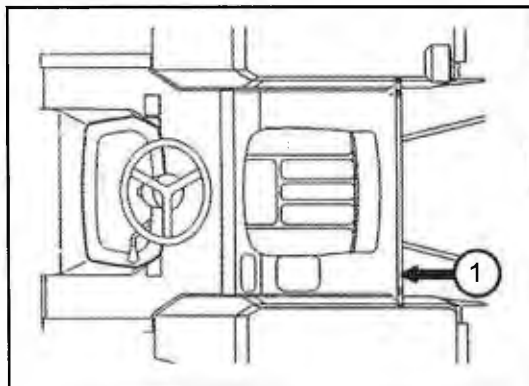

Fig. 37-1 - Range Gear Selector
Using a grease gun, apply all purpose grease in the lubricating nipple (1). (See Fig. 37-1).